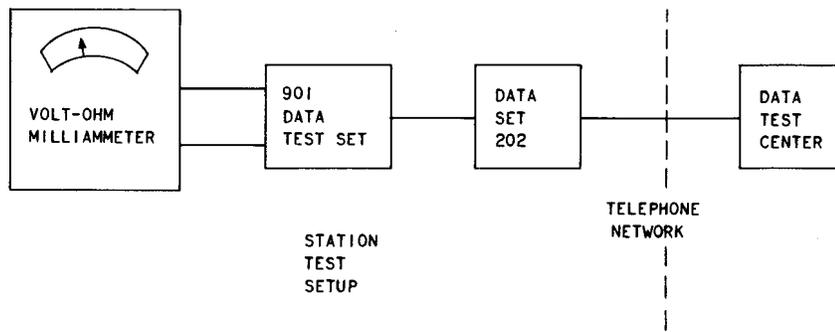

Fig. 1—Interface Test, Block Diagram
**3.05** Perform interface tests per Table A. Figure 1 is a block diagram showing equipment setup for interface tests.